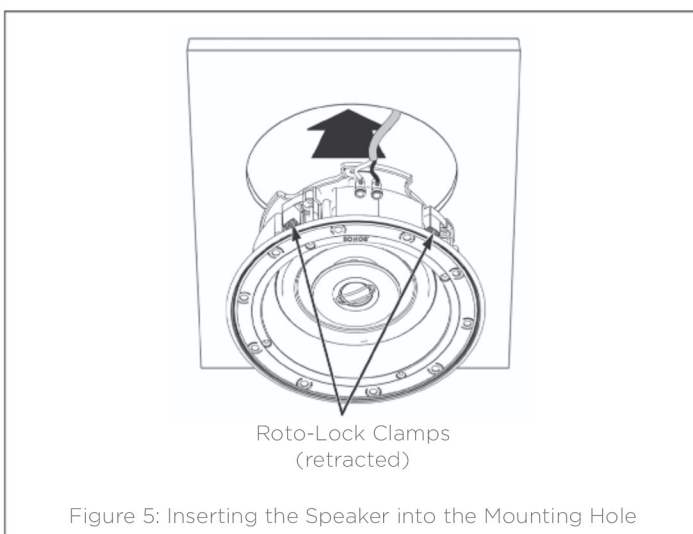

Figure 5: Inserting the Speaker into the Mounting Hole
3. Make sure all the Roto-Lock toggle feet are retracted so that they are tucked within the mounting hole's border. Insert the speaker into the hole in the ceiling (see Figure 5). The Roto-Lock system can accommodate a ceiling material thickness of 1-1/4" (32mm) with the toggle foot cap removed; the system can accommodate a ceiling material thickness of 1-7/8" (48mm).